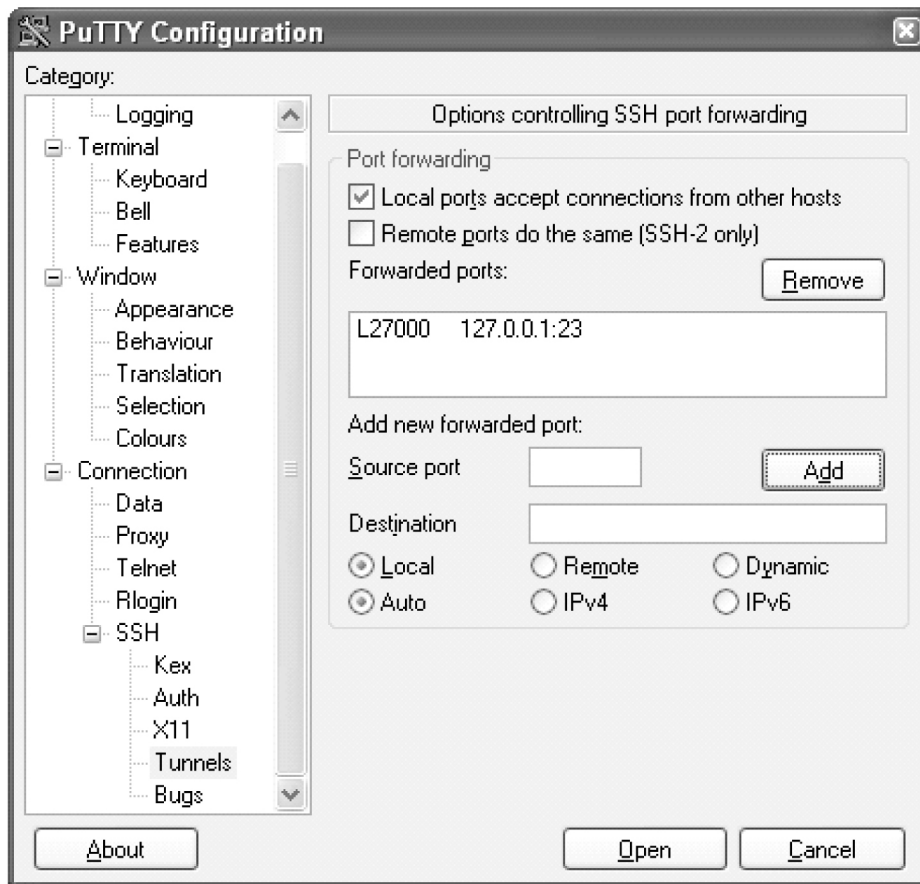
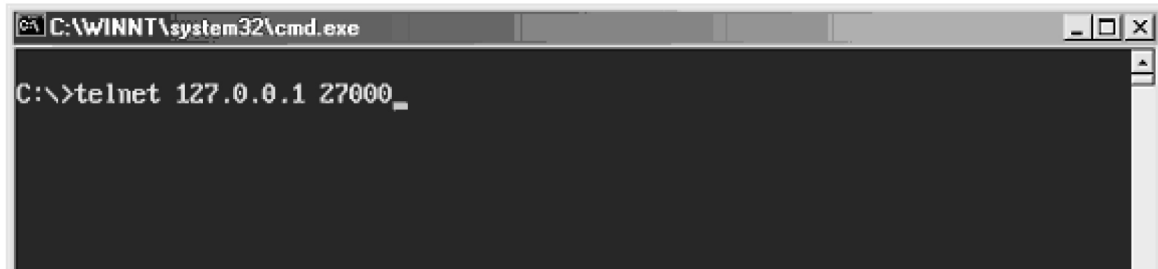

Figure 16: PuTTY Configuration Window - SSH Tunnel/Port Forwarding Completion
Figure 20: Telnet Connection to Local Host Forwarded Port
The forwarding port (**Source port** value) and the IP address and port of the remote machine (the **Destination** value) appear in the **Forwarded ports:** box and the **Source port** and **Destination** boxes are empty. See Figure 16: PuTTY Configuration Window - SSH Tunnel/Port Forwarding Completion.
18. Initiate a telnet connection to the local host at the forwarded port configured in step 14 (see Figure 16: PuTTY Configuration Window - SSH Tunnel/Port Forwarding Completion).
At the prompt, enter the `telnet` command with the IP address and Source port value shown in Figure 16: PuTTY Configuration Window - SSH Tunnel/Port Forwarding Completion. For this example, enter the `telnet` command with the IP address 127.0.0.1 and the source port value 27000, as shown in Figure 20: Telnet Connection to Local Host Forwarded Port. Press the **Enter** key.